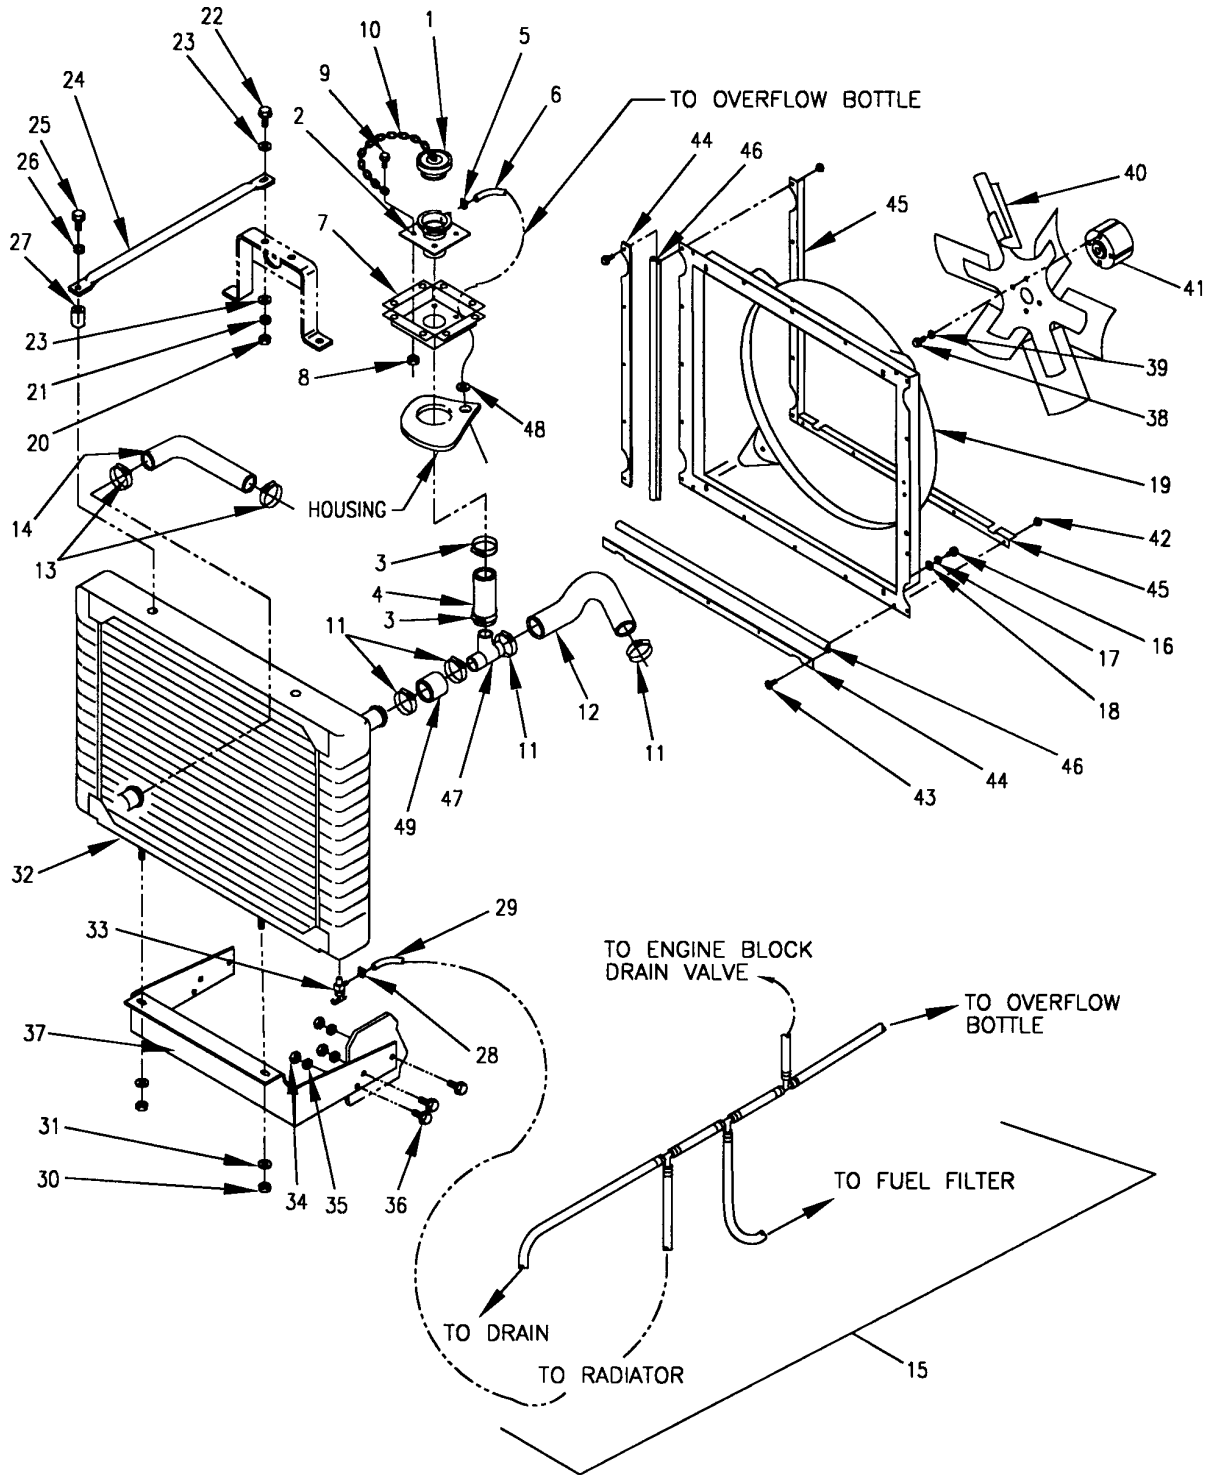

FIGURE 4-22. COOLING SYSTEM (SHEET 1 OF 2)
- (2) Slowly remove radiator cap (1, Figure 4-22) from filler neck (2).
- (3) Install cooling system pressure tester (Appendix B, Section III) in filler neck (2).